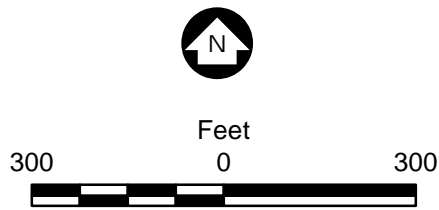

Figure 1
- Figure 1 – FIRM and topographic map showing project location and compensatory storage
Barr Footer: ArcGIS 10.4, 2016-04-28 14:05 File: \\barr.com\GIS\Projects\231271380\Maps\Reports\No_Rise_Cert\Figure 1 - Flood Plain.mxd User: lad